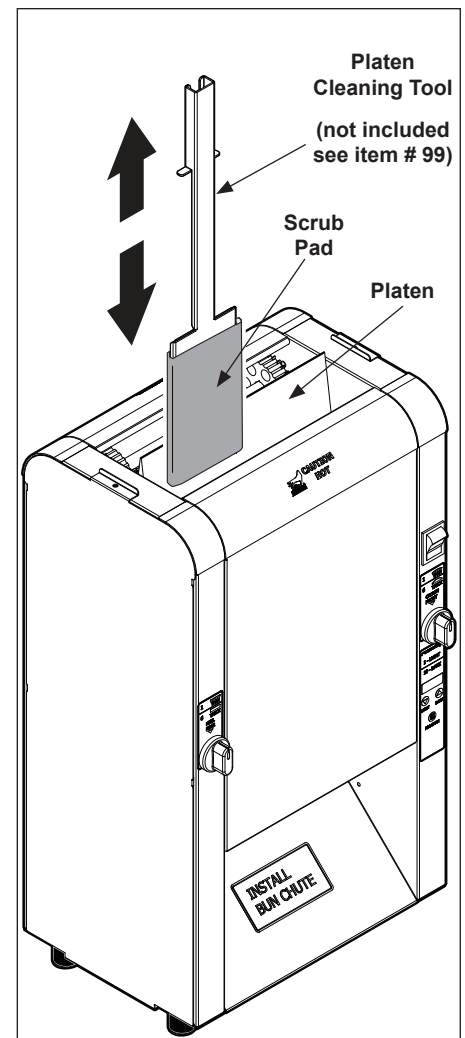

Figure 10. Scrub Platen tool
5. Insert a scrub pad into platen tool (Figure 10).